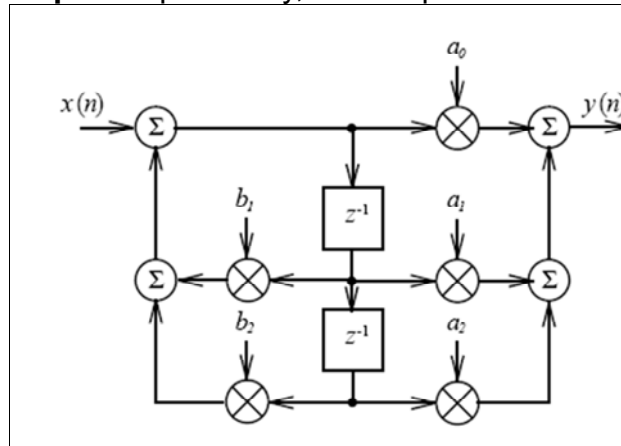

Figure 1: Biquadratic digital filter section, Direct form II (canonical).
Figure 1 shows the canonical (direct form II) implementation of an IIR second order (biquadratic) digital filter. The canonical form of a digital filter is often preferred as it is the realisation which requires the minimum memory to implement a particular transfer function. As we have seen for digital filters the z-transform defines the link between the transfer function and the linear difference equation giving, $y[n]$, as a function of present and past input and output samples. The difference equation is important in the sense that it illustrates the fact that the **present output, $y[n]$** , of a linear discrete system is a linear combination of the weighted present and **N** past **inputs** to the system as well as **M** weighted past **outputs**. Specifically, for a biquadratic filter $N = M = 2$.
5. Draw a block diagram of the filter in Direct Form II, i.e., calculate the coefficient values for the general biquadratic digital filter section shown in Figure 1.